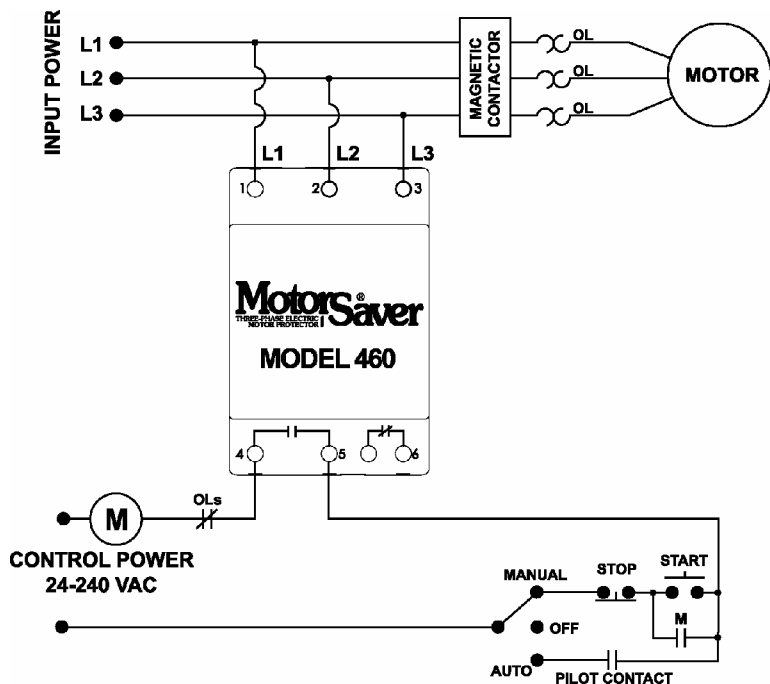

Figure 1. Control Wiring Diagram
2. Connect L1, L2 and L3 on the MotorSaver's terminal strip to the LINE SIDE of the motor starter (see Figure 1).
3. Connect the output relay to the circuitry to be controlled. For motor control, connect the normally open contact in series with the magnetic coil of the motor starter as shown in Figure 1. For alarm operation, connect the normally closed contact in series with the control circuit as in Figure 2.